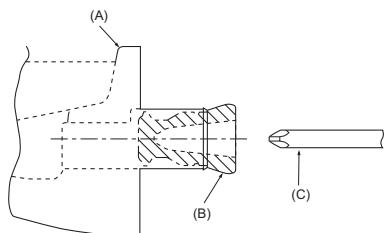

Fig. 5-1
- For left side tubing, be sure to insert the rubber plug into the right drain port. (Fig. 5-1)
- (A) Drain pan
- (B) Plug
- (C) Insert the driver etc. in the plug deeply.